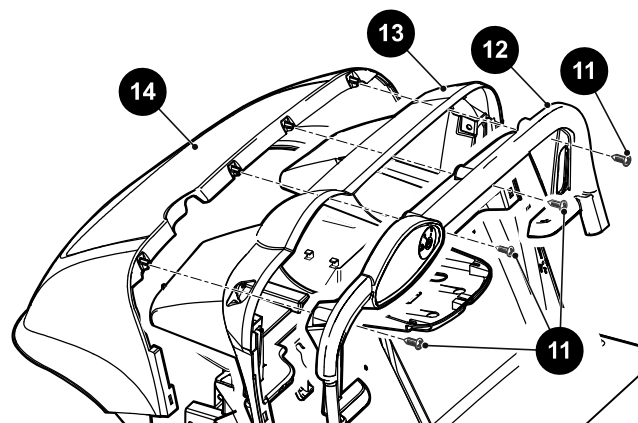

Figure 7 Cowl and Instrument Panel Trim
1. Remove four torx screws (11) securing the trim panel (12) to the instrument panel (13) and cowl (14) (Figure 7).
2. Locate the tab in the fender well area, under the cowl. The tab extends from the instrument panel (13) through a slot in the cowl. Squeeze the tabs together and push to the back of the vehicle while pulling forward on the cowl. Repeat for the other side. Remove the cowl.
3. Loosen the trim panel (12) by pulling it away from the instrument panel along the upper edge. Grip the ball